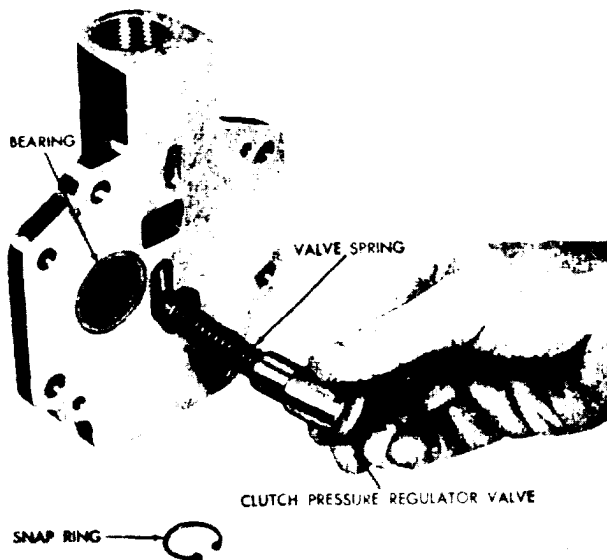

Figure 4C-29. Removing (or Installing) Clutch Pressure Regulating Valve
10. Do not remove sleeve (25, Figure 4C-41 on page 4C-36) from the oil pump body unless replacement is necessary. If necessary, drive the sleeve out of the pump body (see Figure 4C-33 on